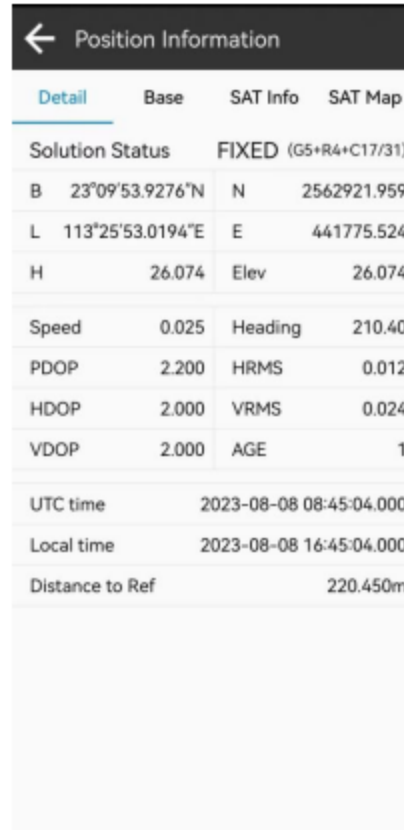

Figure 2.13-2
4. Click on the "  " in the software's title bar to view the device's output positioning information, as shown in Figure 2.13-2. You can switch to view the base station information as well as the star chart and satellite constellation information, as shown in